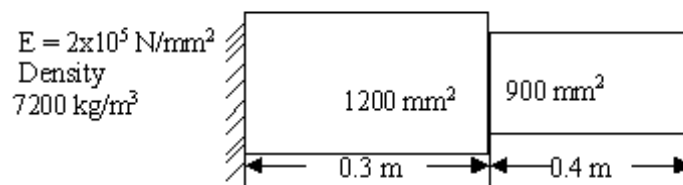

Figure 8
5. Consider the axial vibrations of a steel bar shown in the figure 8: